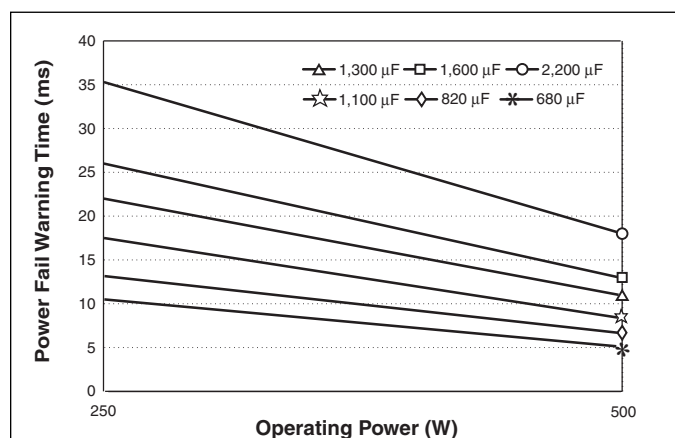

Figure 9-14 — Power fail warning time vs. operating power and total bus capacitance, series combination of C1, C1 (Figure 9-1a)
Calculated values of bus capacitance for various hold-up time, ride-through time, and ripple voltage requirements are given as a function of operating power level in Figures 9-14, 9-15, and 9-16, respectively.
**Determining Required Capacitance for Power Fail Warning.** Figure 9-14 is used to determine capacitance for a given power fail warning time and power level, and shows that the total bus capacitance should be at least 820  $\mu$ F. Since two capacitors are configured in series, each capacitor should be at least 1,640  $\mu$ F. Note that warning time is not dependent on line voltage. A hold-up capacitor calculator is available on the Vicor website, at [vicorpower.com/hubcalc](http://vicorpower.com/hubcalc).